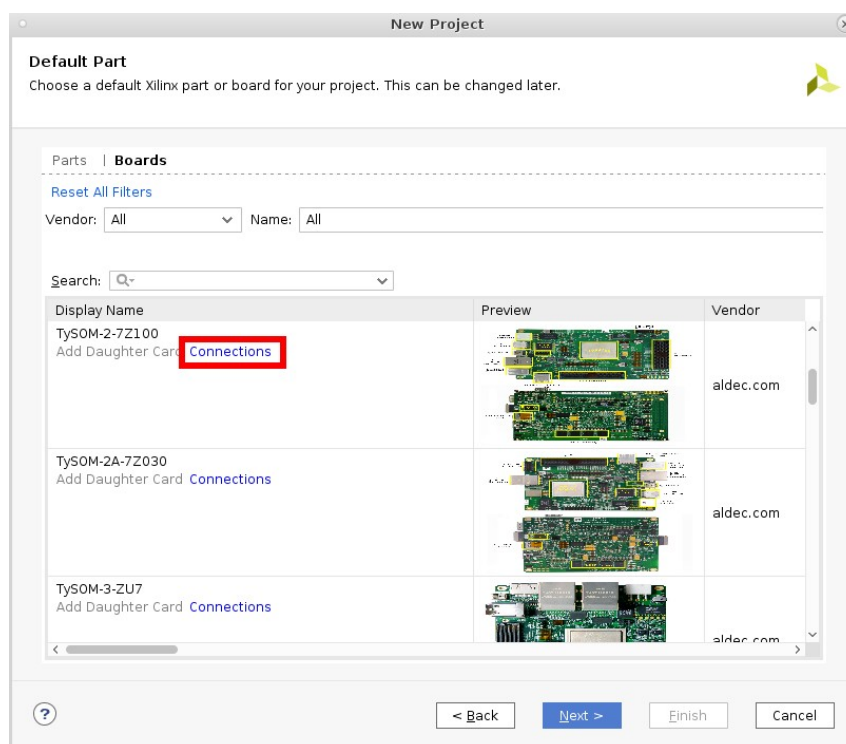

Figure 5: Add a daughter card connections.
- Some of TySOM boards have FMC connectors. Board connections can be added by selecting a FMC daughter card as shown in the figures 5 and 6.